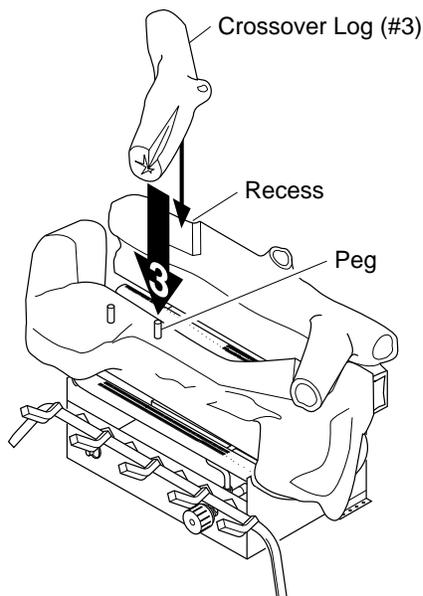

Figure 23 - Installing Crossover Log (#3)
3. Place crossover log (#3) onto the pin (right) on middle log (#1) and into the recess of the back log (#2) (see Figure 23).